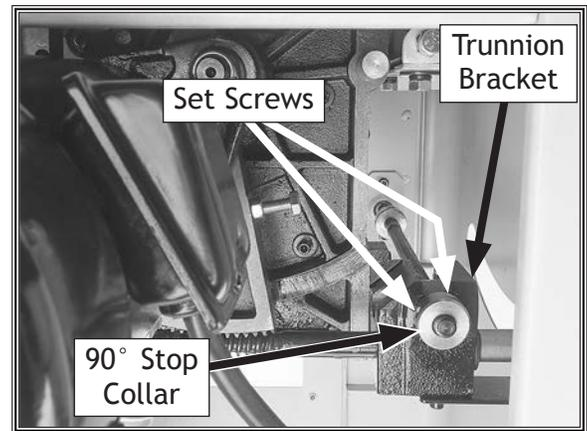

Figure 107. 90° stop collar and set screws.
5. Open motor door, loosen set screws shown in **Figure 107**, then thread 90° stop collar one turn away from trunnion bracket. This will allow you to square blade in next step.